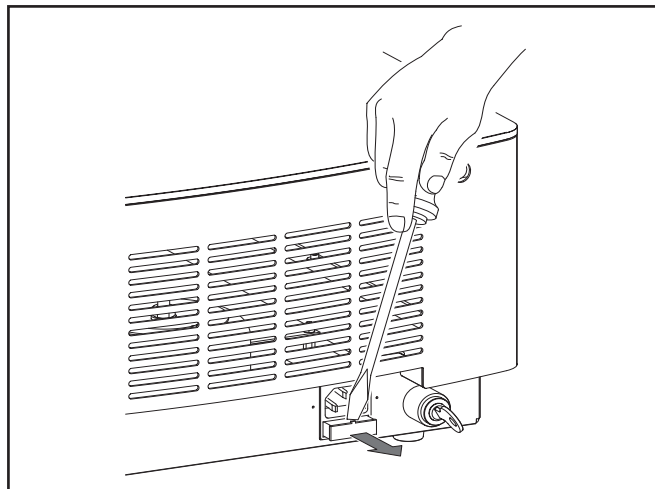

Figure 22
- the fuses are located in a small plastic block that should be removed by inserting a flat-head screwdriver into the middle slot and pulling outward (*Figure 22*);